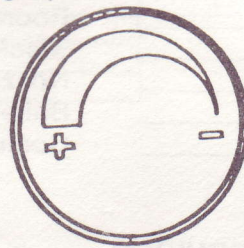

Fig. 8
13.7 When the fire is established, make a temporary air adjustment to clear any smoke. Leave the fire door open until the combustion chamber is dry. Modern chambers contain organic binder which must be baked out before final burner adjustments can be made. Allow at least 15 minutes firing to "dry" the chamber. When normal temperatures are reached, close the inspection (fire) door, adjust the draft and the air shutter for a clean fire. Ref. 7 and 7.1 and 7.2. Extra fine tuning can be achieved by dialing the knob (See Fig. 8).